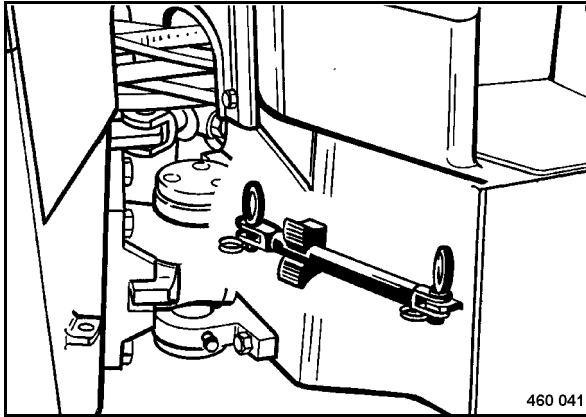

Fig. 76
- After the transport release the articulation lock and fix it in its receptacle (Fig. 76).